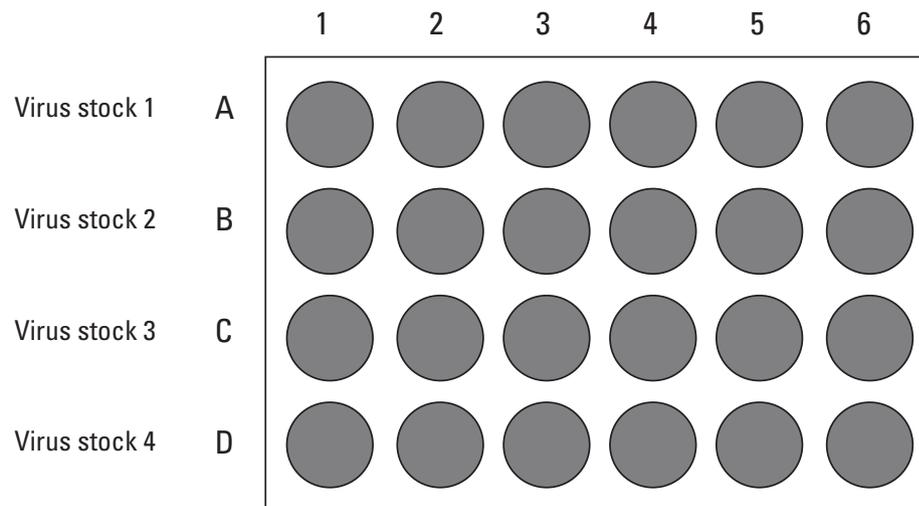

Figure 4. 24-well tissue culture plate, seeded with TLA-HEK293T cells, used to titer the virus.
8. Label 24-well plate as shown in Figure 4 using one row for each virus stock to be tested.
well destination plate (Figure 4) containing the cells.